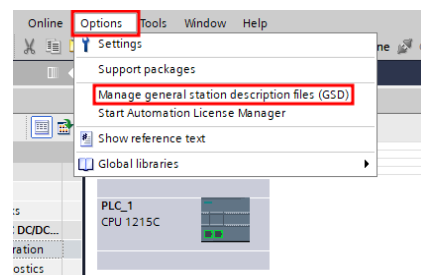

Figure 1: Options -> GSD File
4. Select “Options” scroll to and select “Manage general station description file (GSD),” Figure 1